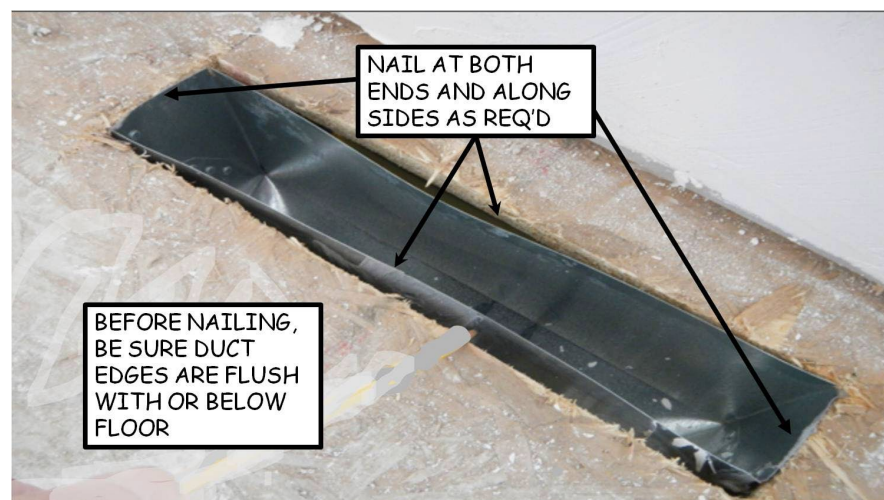

Figure 12-3. Securing In-Floor Heating Duct.
1. Secure every in-floor heating duct to the OSB sub-floor by nailing it with two white soffit nails – one at each end (see Figure 12-3). Prior to nailing, adjust the duct up or down as needed so the top edge is flush with the top of the sub-flooring or slightly below. Add extra nails to duct sides if gaps between the sub-floor cutout and the duct are greater than 1/8".